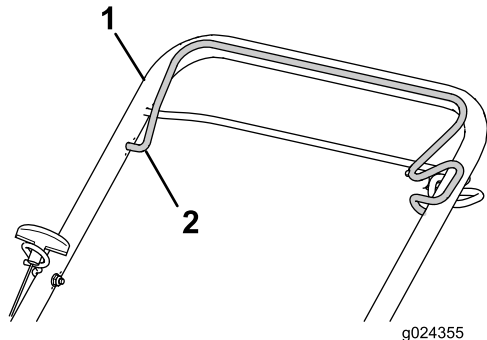

Figure 16
3. Hold the blade-control bar against the upper handle (Figure 16).